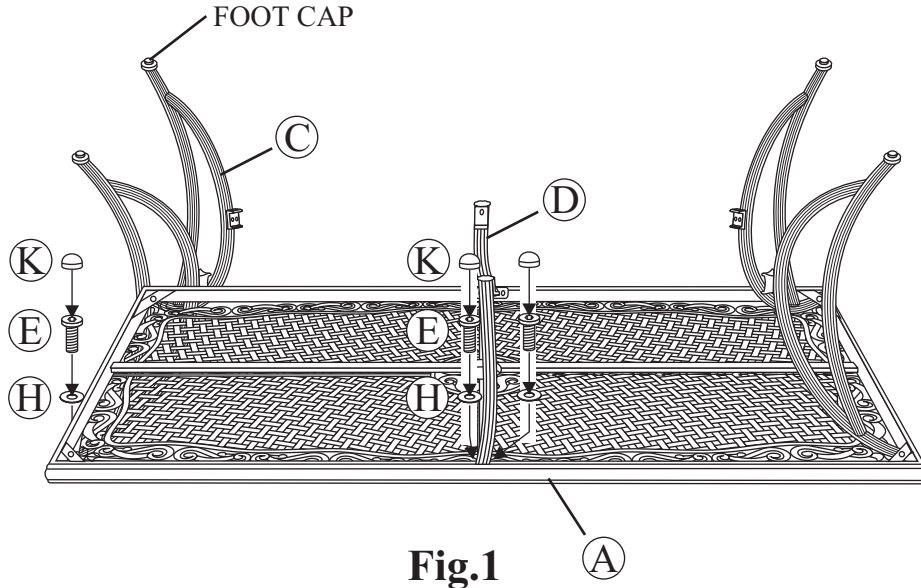

Fig.1
- 1 Place the table top upside down on a flat, non-abrasive surface. Attach table leg to table top by using a 1/4"x20 mm bolt and a washer as shown in Fig.1. Place the leg beneath the table rim corner bracket. Guide the bolt through the hole in the table rim and into the pre-drilled hole in the table leg. **Hand tighten only.** Repeat for the other three legs. Attach the topside support to the table top by using two 1/4"x20 mm bolts and washers as shown in Fig.1. **Hand tighten only.** Repeat for the opposite side.